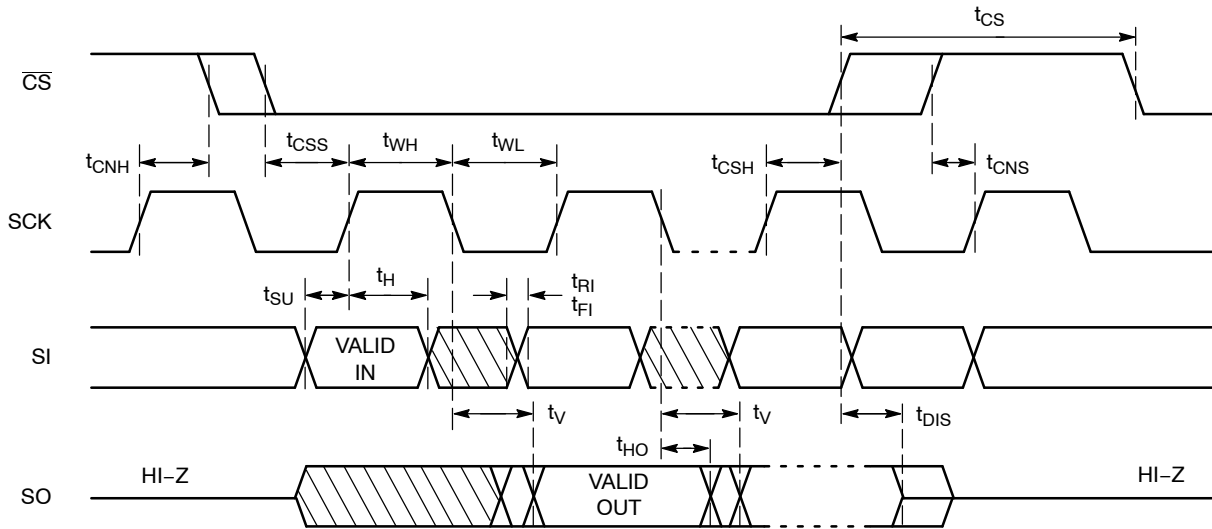

Figure 2. Synchronous Data Timing
8. **All Chip Select (CS) timing parameters are defined relative to the positive clock edge (Figure 2). tCSH timing specification is valid for die revision E and higher. The die revision E is identified by letter “E” or a dedicated marking code on top of the package. For previous product revision (Rev. D) the tCSH is defined relative to the negative clock edge.**
After a high to low transition on the  $\overline{\text{CS}}$  input pin, the CAT25640 will accept any one of the six instruction op-codes listed in Table 9 and will ignore all other possible 8-bit combinations. The communication protocol follows the timing from Figure 2.